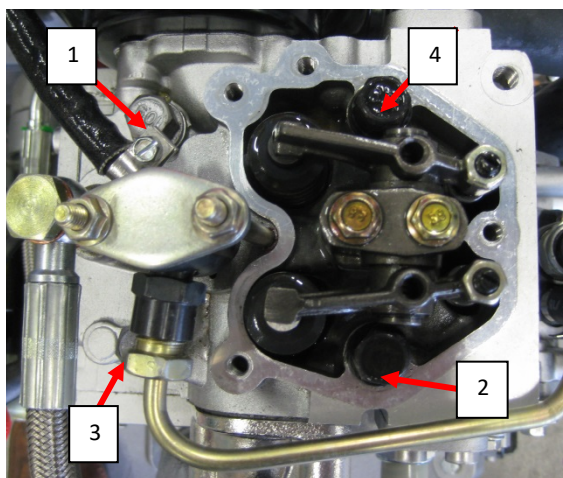

Figure 8: Cylinder head bolts
- 1 Push the START button on the WP-PMG local panel (Figure 8) and hold for two seconds to initiate the full automatic starting procedure. As a result, the electric system is activated.
- 2 Press the PMG STOP button (Figure 8) and hold for 2 seconds.
In case of inverter failure or oil pressure, oil temperature or exhaust temperature limit exceeding, the error will be indicated on the PMG local panel (bottom left; refer to Figure 8).